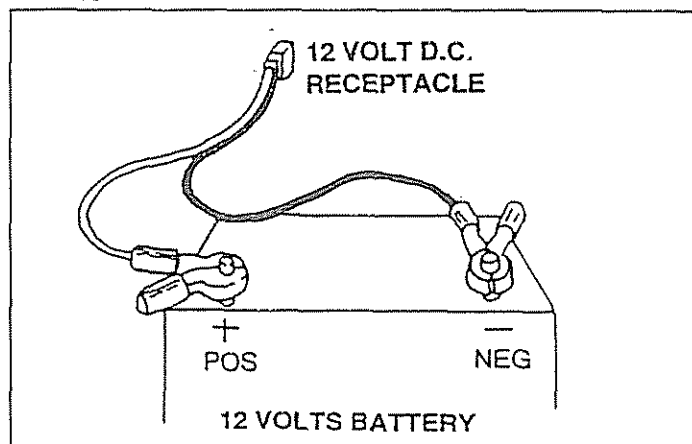

FIG. 12
- Connect battery charge cable connector plug to panel receptacle (Fig. 12), identified by the words "12-VOLT D.C."